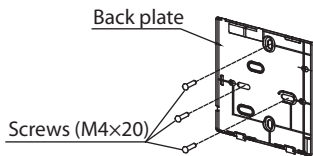

Fig 3-5
- For surface mounting, fasten the back plate on the wall with the 3 screws (M4x20) and plugs. (Fig.3-5)